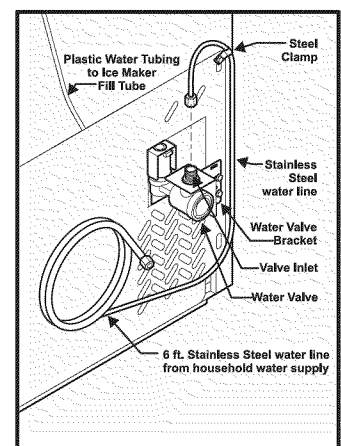

Figure 2
5. **If you use stainless steel tubing** - The nut and ferrule are already assembled on the tubing. Slide compression nut onto valve inlet and finger tighten compression nut onto valve. Tighten another half turn with a wrench; **DO NOT** overtighten. See Figure 2.